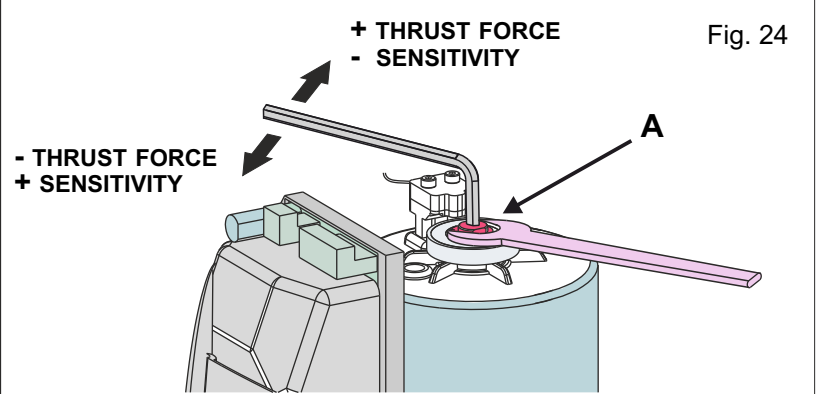

Fig. 24
- 10.2.** To adjust the clutch, act on the grub screw «A» Fig. 24 - as follows: